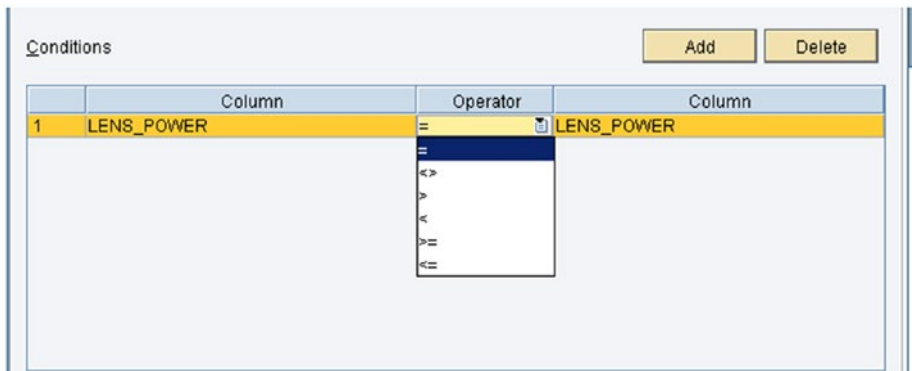

Figure 7-14. Condition available in a joined MDO
1. At least one condition needs to be defined between the MDOs to apply the join to the available operators, as shown in Figure 7-14.